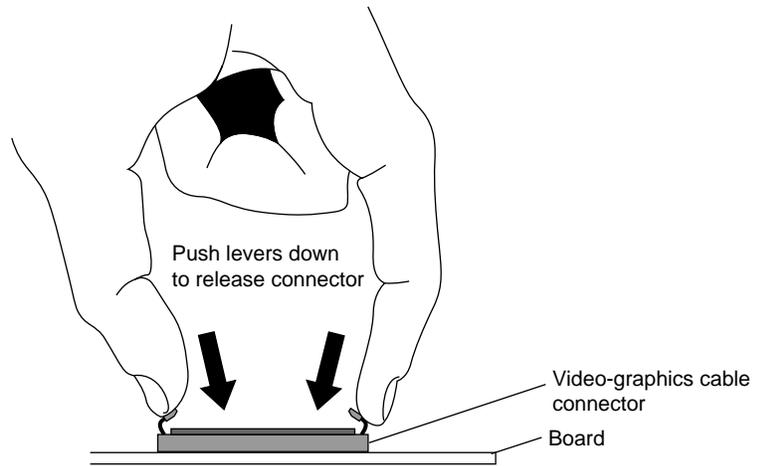

Figure 3-1 Pushing the Release Levers
1. Detach the three video-graphics cable connectors from the video board by pushing down on the release lever to unlock the connector. See Figure 3-1.